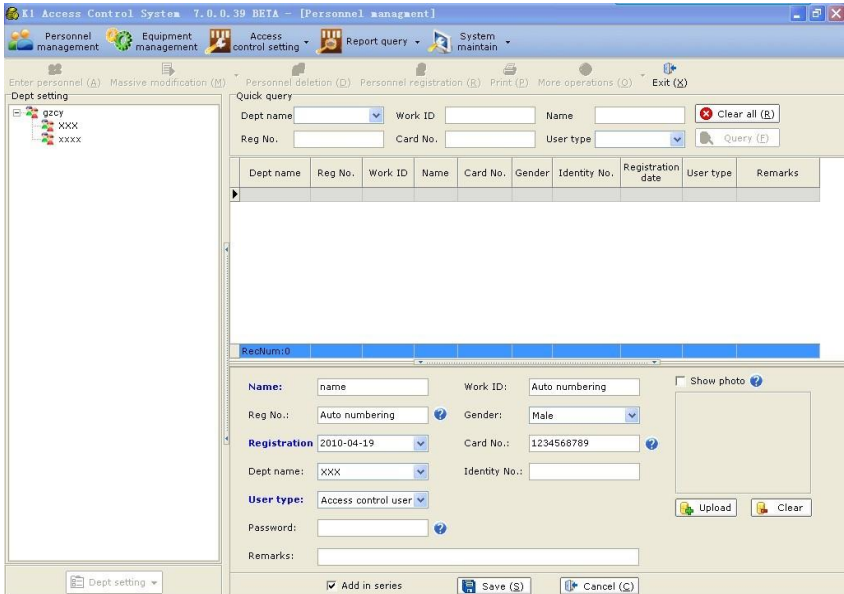

Figure 2.4
2. Click “Personnel entry” to enter all personnel information (Figure 2.4) (including name, registration/ entry dates, user type and department name). Items with a blue mark must be filled. You can also manually enter the personnel ID and registration No. generated automatically by default.)